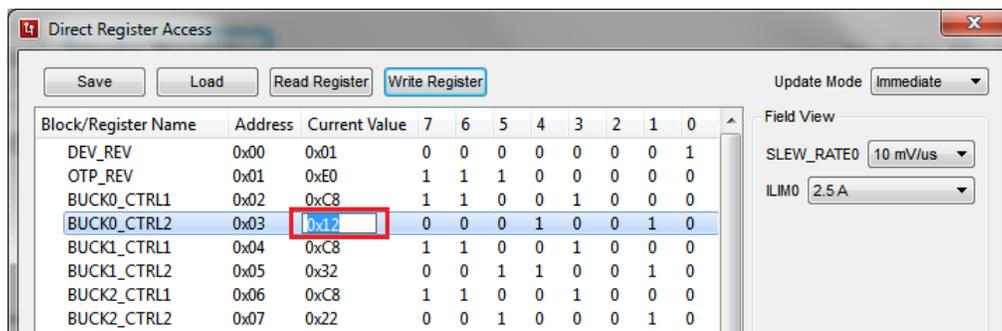

Figure 5. Entering New Register Value on the "Current Value" Field
1. Double clicking the "Current Value" field of the register and entering new value in hexadecimal format (Figure 5)